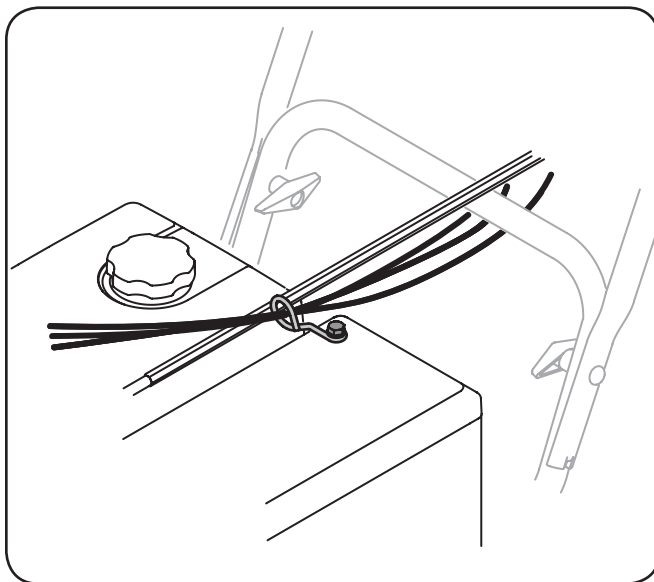

Figure 3-13
9. Check that the cables are properly routed through the cable guide on top of the engine. Some models only have one cable to route through the cable guide. See Fig. 3-13.